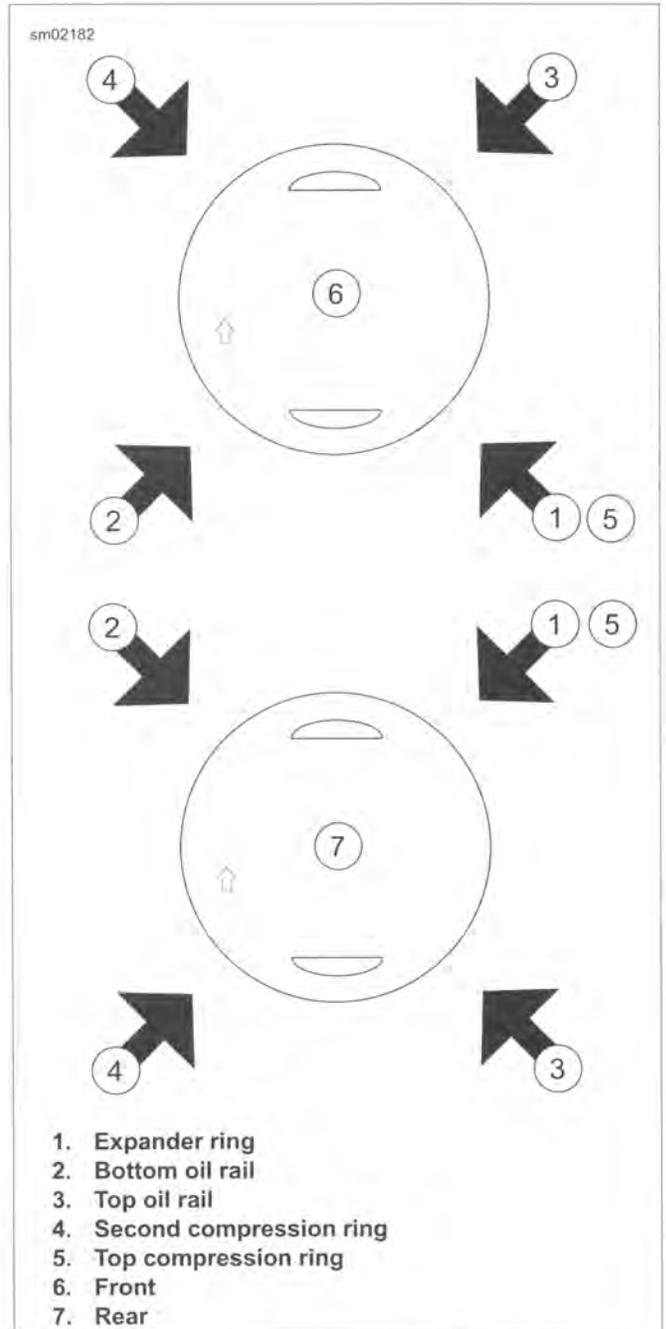

Figure 3-64. Piston Ring Gap Alignment
8. See Figure 3-64. Verify the ring gaps are still properly staggered.